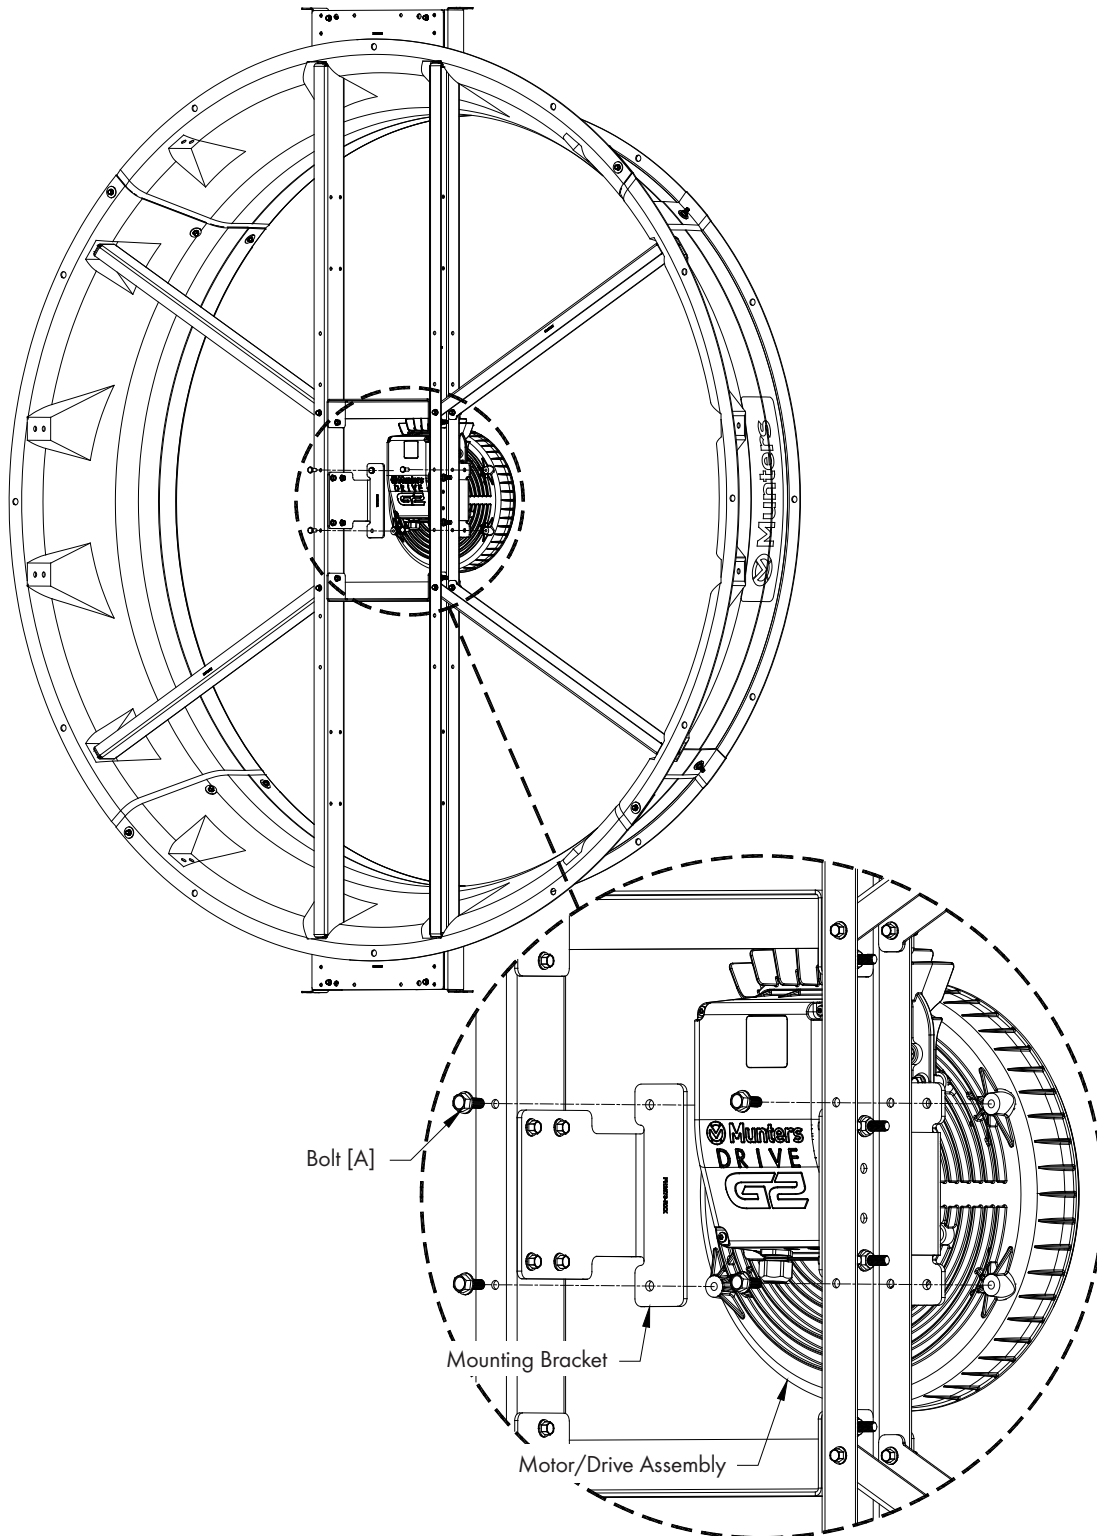

Figure 18
Carefully lift Motor/Drive into place and secure in place using (4) Bolts [A]. Tighten Bolts to 60 in-lbs. [6.8 Nm] of torque. See Figure 18.